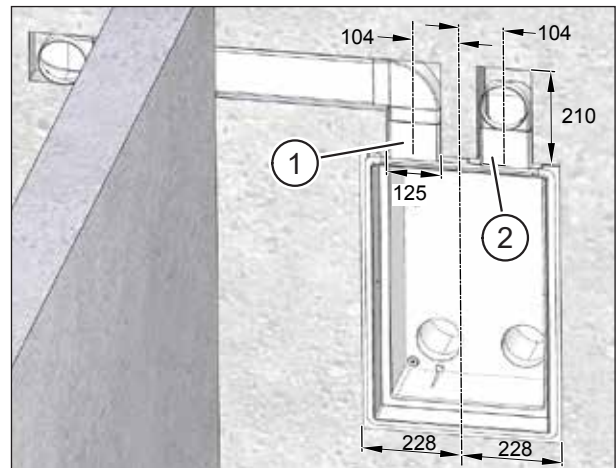

Fig. 14: Chasing out channels for ductwork connection with flat ductwork, dimensions in millimetres
- ▶ Use the wall chaser to chase out two channels 125 mm wide, 70 mm deep and at least 210 mm high (see Fig. 14) for both the extract air duct (item 1 in Fig. 14) and the supply air duct (item 2 in Fig. 14).
Fig. 14 shows an example with the flat ductwork running vertically and horizontally.